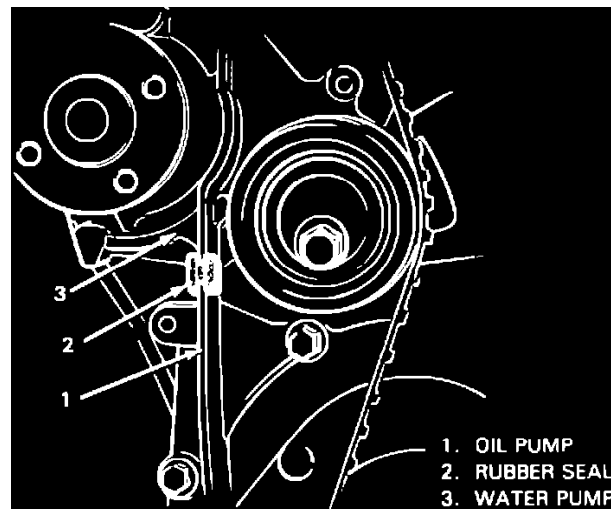

Fig. 34 Rubber seal installation
5. Install rubber seal between oil pump and water pump, **Fig. 34**.